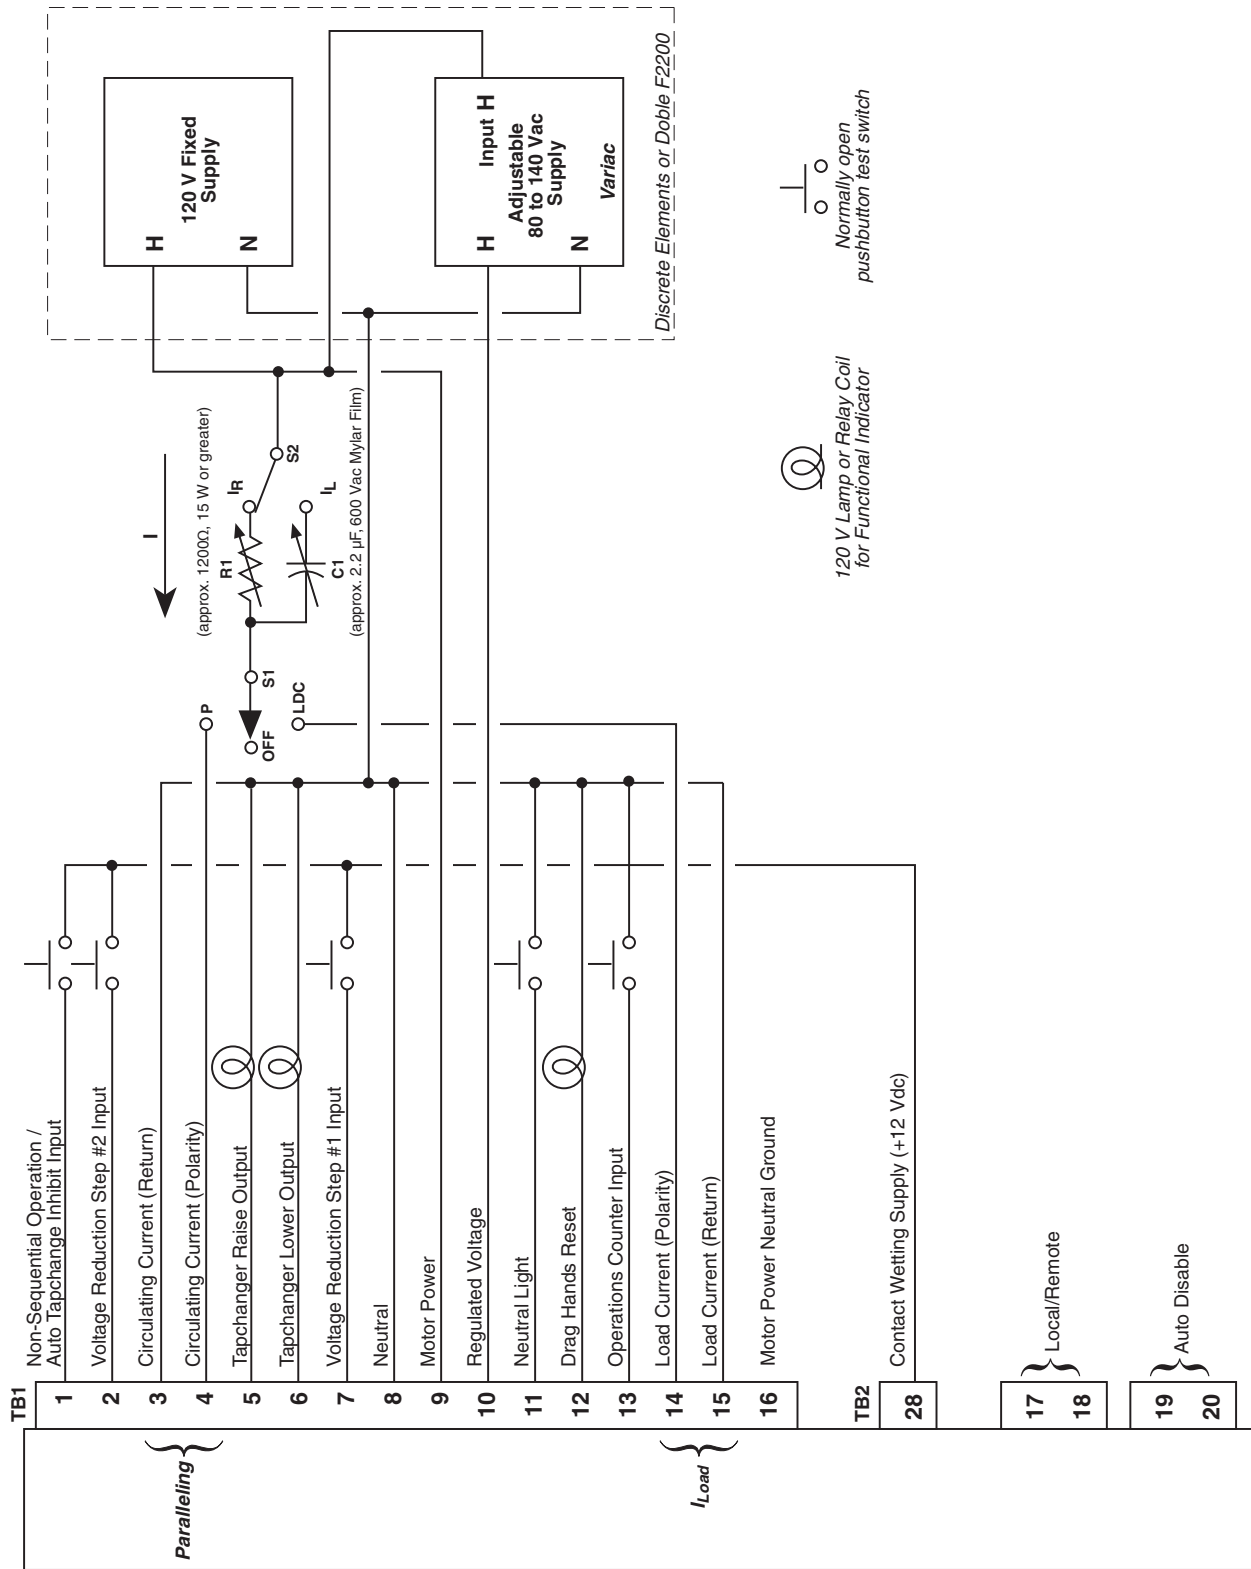
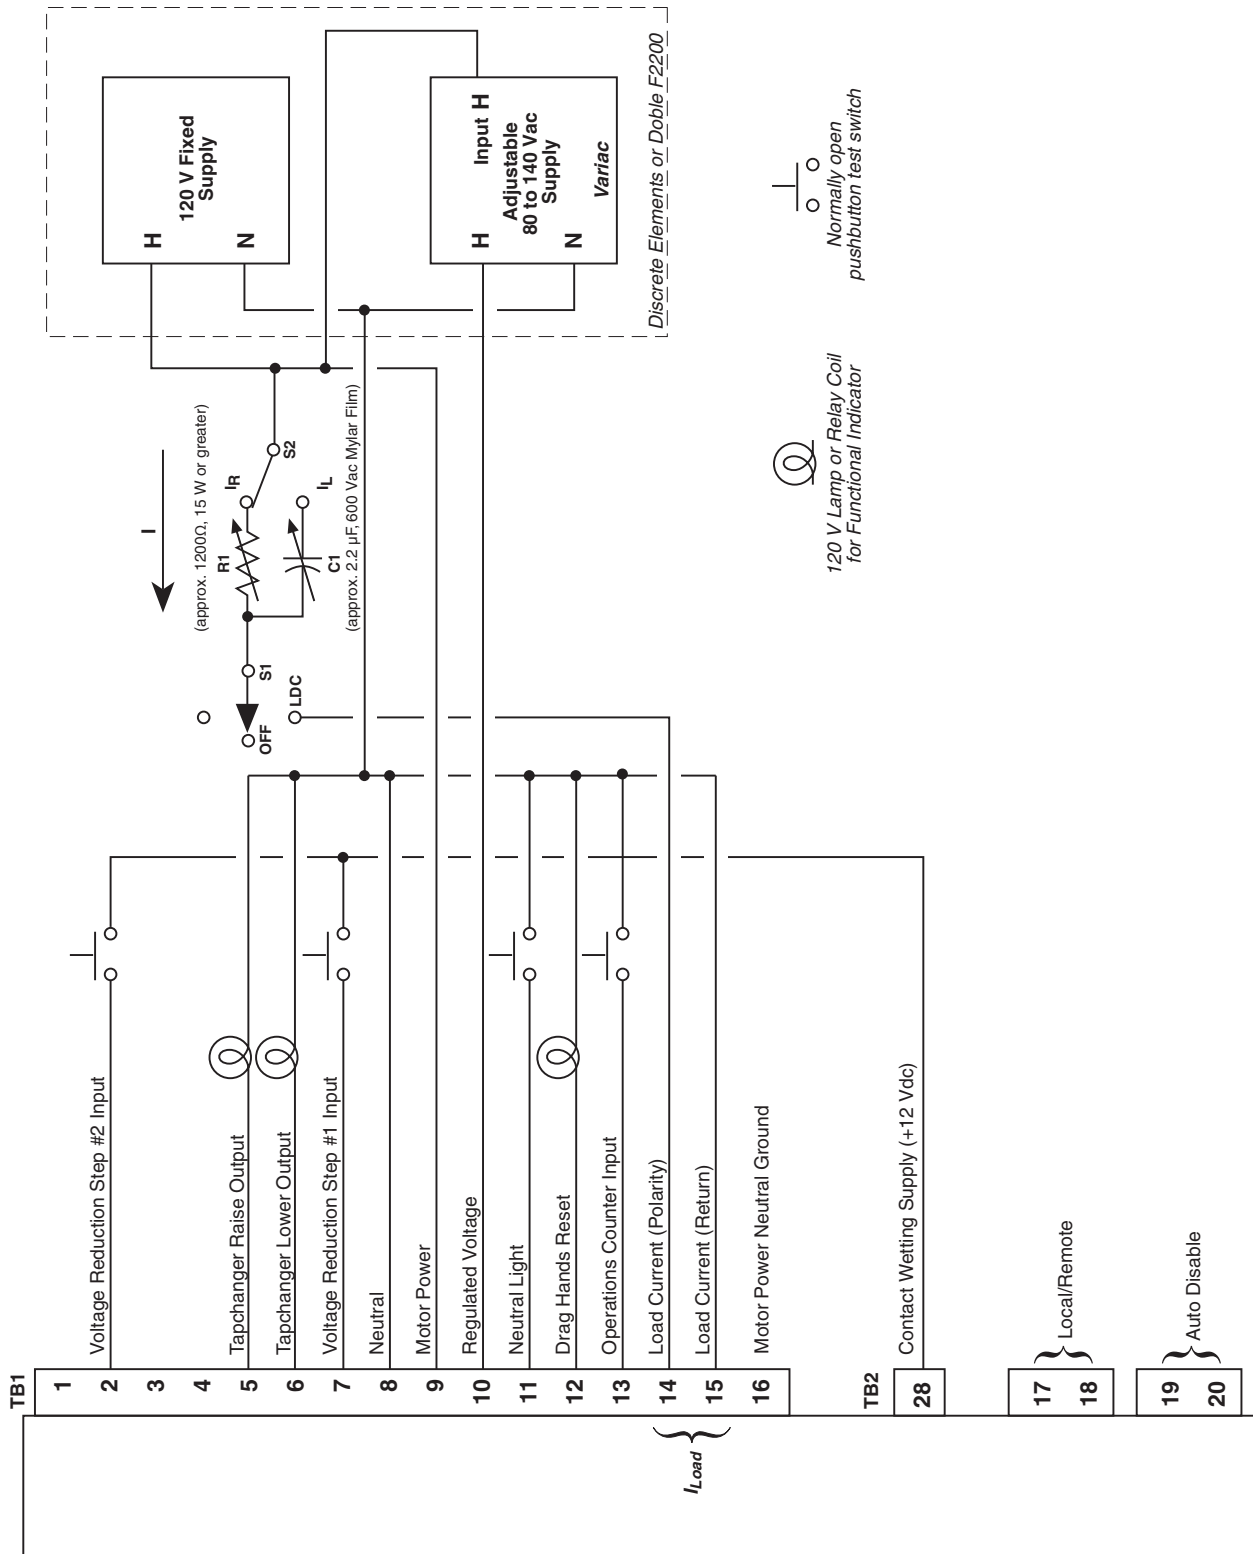

Figure 10 M-2293B Test Procedure External Connections (Comprehensive or BASE-T Version)
Figure 11 M-2293B Test Procedure External Connections (BASE-R Version)
- a. If testing an M-2001 Series Tapchanger Control other than a M-2001C BASE-R Version, then make electrical setup connections as described in Figure 10, M-2293B (Comprehensive or BASE-T Version) Test Procedure External Connections.
- b. If testing a BASE-R M-2001C then make electrical setup connections as described in Figure 11, M-2293B (BASE-R Version) Test Procedure External Connections.
2. Set  $S_1$  to LDC and  $S_2$  to  $I_R$  (Figure 10 or Figure 11, for BASE-R version).
2. Set  $S_1$  to LDC and  $S_2$  to  $I_L$  (Figure 10 or Figure 11, for BASE-R version).